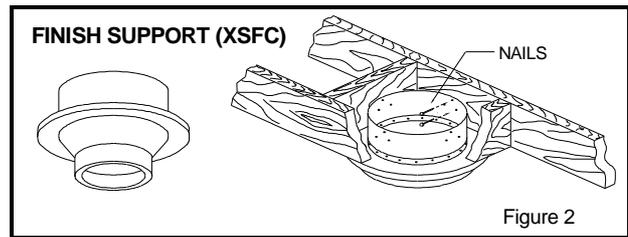

Figure 2
- 2 From below push the support into the framed hole. Nail the support to the framed box using 12 - 3" spiral nails (see Fig. 2)